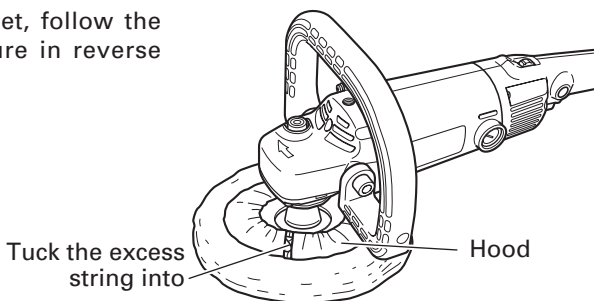

Fig. 6
- (1) Insert the washer nut (optional accessory) through the rubber pad (optional accessory) and thread it onto the spindle.
- (2) Press the lock pin to secure the spindle and tighten the washer nut with a wrench.
- (3) Wrap the rubber pad with the hood of the wool bonnet (optional accessory) and firmly secure it by tying a string around it. Be sure the excess string is firmly tucked inside the wool bonnet to prevent it from flying out while polishing. The unbalanced fitting of the wool bonnet may cause vibration (Fig. 6).
- (4) To remove the wool bonnet, follow the above-mentioned procedure in reverse order.